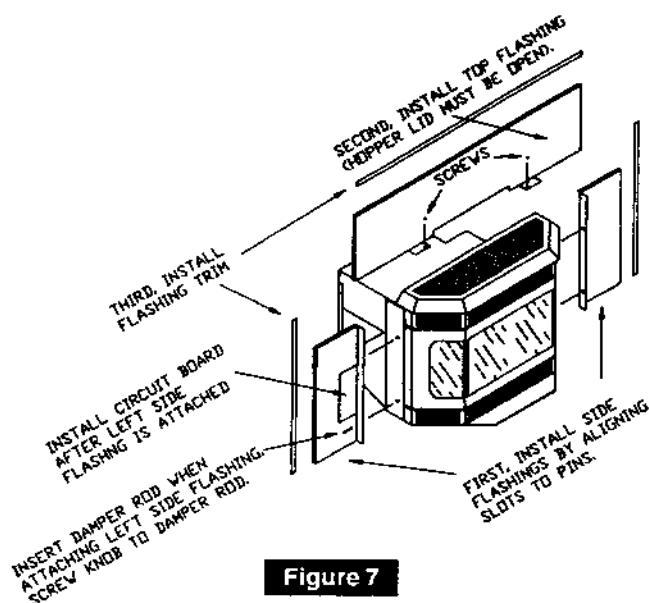

Figure 7
4. Attach flashing (see Figure 7). Route power cord out the side nearest a 120V receptacle. Slide in insert. A tight seal of the flashing to the fireplace face is not necessary. Do **NOT** restrict air to or from vents in flashing.